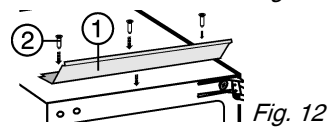

Fig. 12
- ▶ Fit equaliser trim Fig. 12 (1) with screws Fig. 12 (2) onto the appliance.